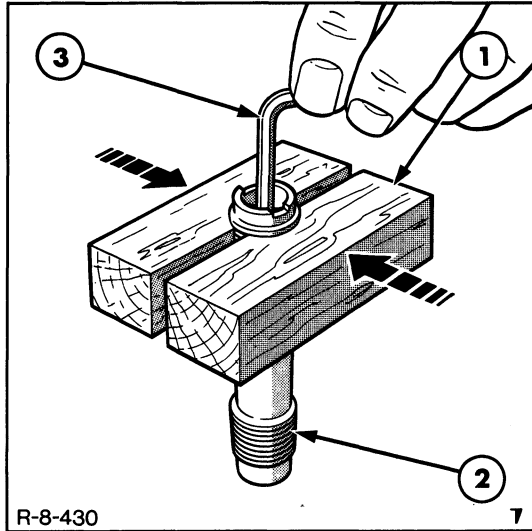

Figure 44
- (a) Bore a 22.0 mm dia hole in a suitable piece of softwood, then saw the wood in half across the diameter of the hole. Gently but firmly clamp the spool around the top land using the wood between the jaws of a vice, Figure 44.